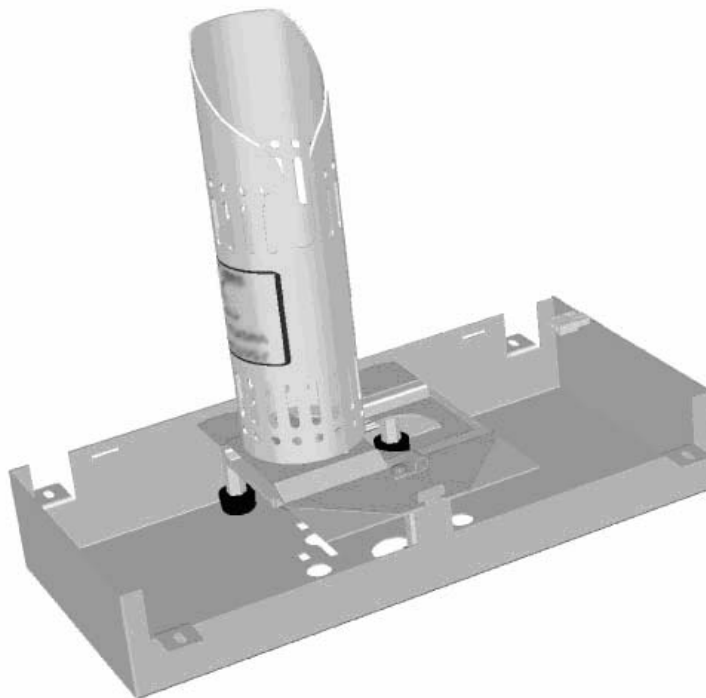

Figure 5 Illustration of Burner Mounted with FID Adapter (Rear View)
- Figure 5 illustrates the proper completed mounting of the burner.